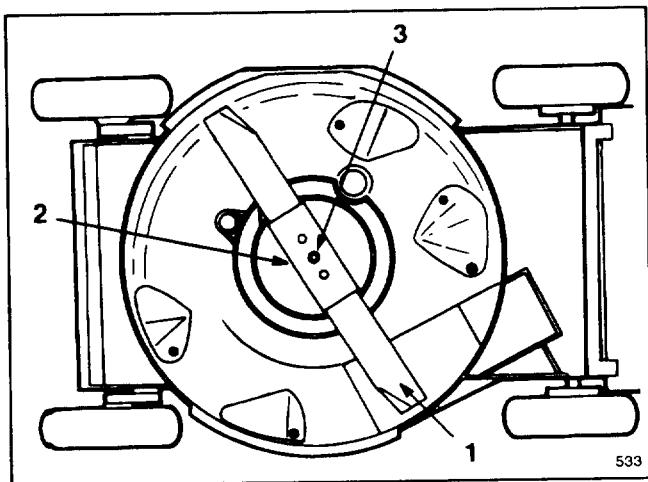

Figure 16
3. Tip mower on its right side (Fig. 16). Avoid rotating blade as starting problems may result.
5. REMOVING BLADE—Grasp end of blade using a rag or thickly padded glove. Remove blade bolt, lockwasher, blade stiffener, and blade (Fig. 16).